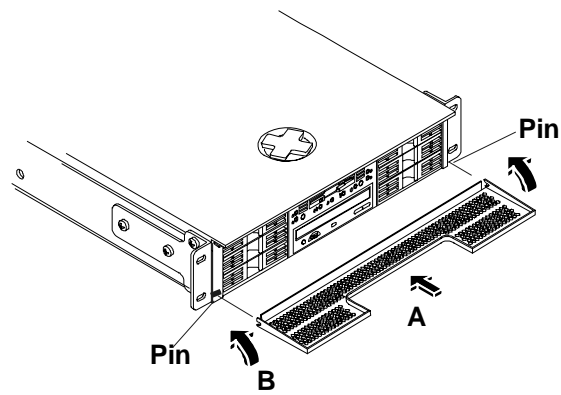

Figure 8-8. Attaching the Front Bezel
1. Hook the bottom edge of the bezel onto the pins on the brackets. See Figure 8-8 (figure shows flush-mount brackets).